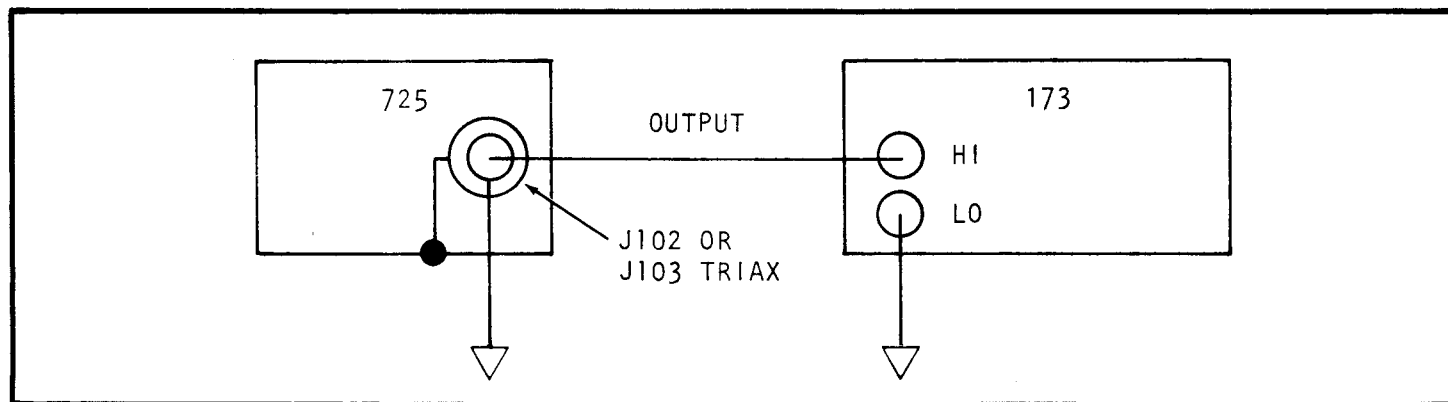

FIGURE 6-2. Accuracy Check.
<p>g. Accuracy.</p>	<p>Verify the accuracy on each full-scale range.</p> <p>Set OUTPUT to STANDBY. Connect the Digital Multimeter (A) to OUTPUT receptacle as shown in Figure 6-2. Set COMPLIANCE to 90V.</p>